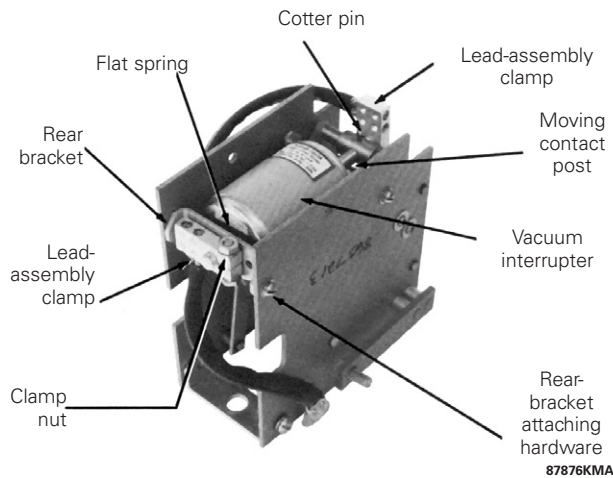

Figure 16. Type V4H vacuum contact-box assembly
7. Remove the four hex nuts, lockwashers, and flat washers that secure the exhaust and generating chambers to the contact-box assembly and remove both chambers by sliding them off the mounting bolts. Figure 16 shows the exhaust chamber removed from the contact-box assembly. Note the position of the insulating spacers.